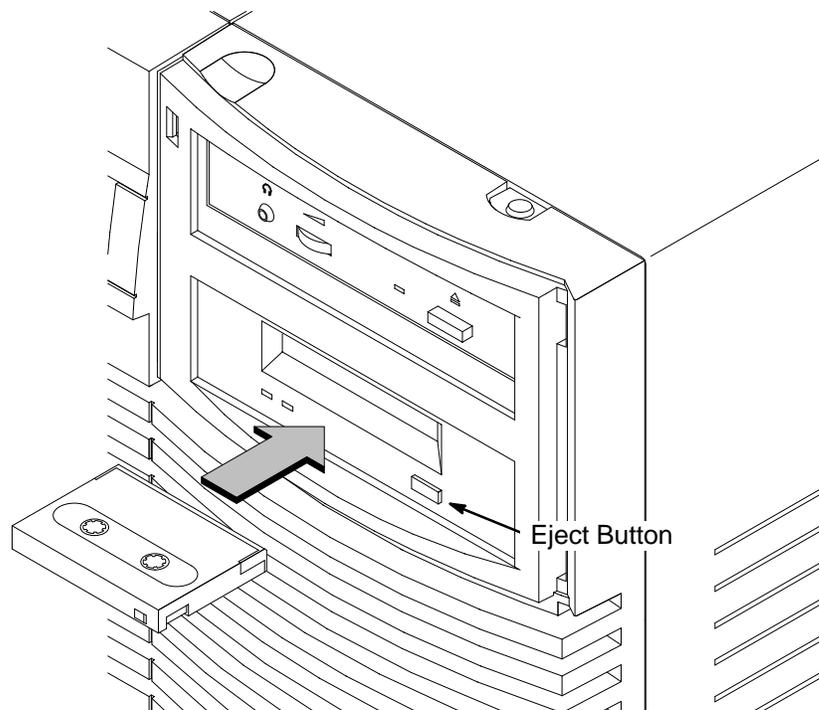

Figure 3–3. Loading a Data Cassette
2. Insert the data cassette into the drive, as shown in Figure 3–3.
4. To remove the data cassette, press and release the eject button on the front of the drive, as shown in Figure 3–3. The LEDs on the drive flash on and off. Ten to twenty seconds later, the data cassette slides partway out of the drive. Remove the cassette from the drive.